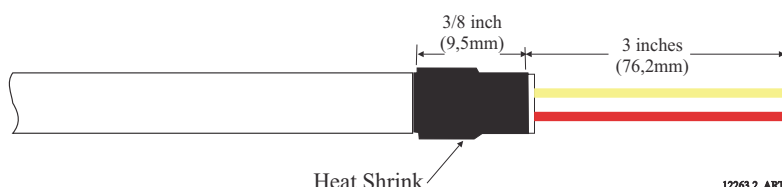

Figure 4-15: Two-Conductor Start Interlock Cable
- C Strip back 2 inches (50,8mm) of the PVC jacketing. Refer to Figure 4-15: Two-Conductor Start Interlock Cable